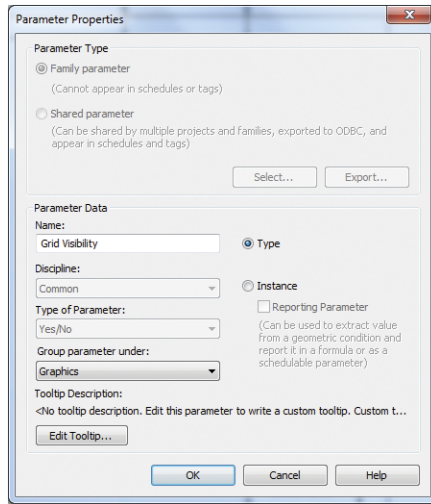

FIGURE 6.42 Creating a visibility parameter
7. Click Add Parameter to open the Parameter Properties dialog box. In the Name field, type **Grid Visibility**. Click the Type radio button, and set Group Parameter Under to Graphics, as shown in Figure 6.42.